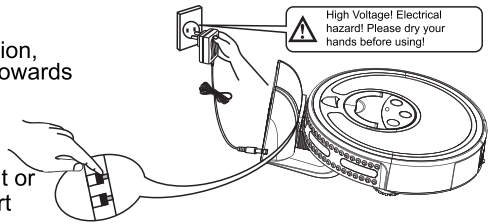

Fig.2
3. Method 2: Before charging, turn on the cleaner and connect adapter to the charging station. Put the cleaner in front of charging station, with the charging prongs on main unit towards charging station. (See Fig 2)